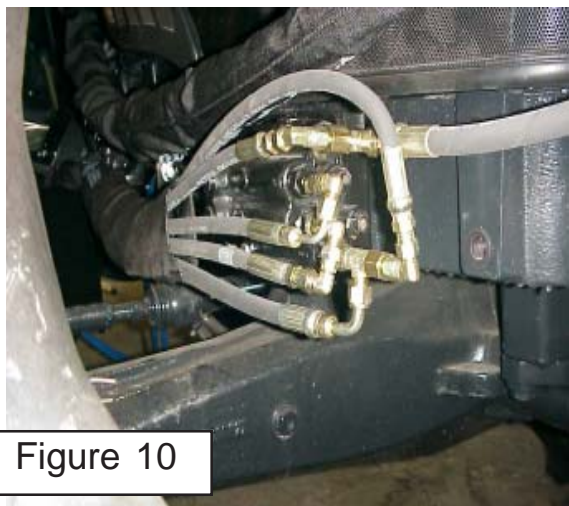
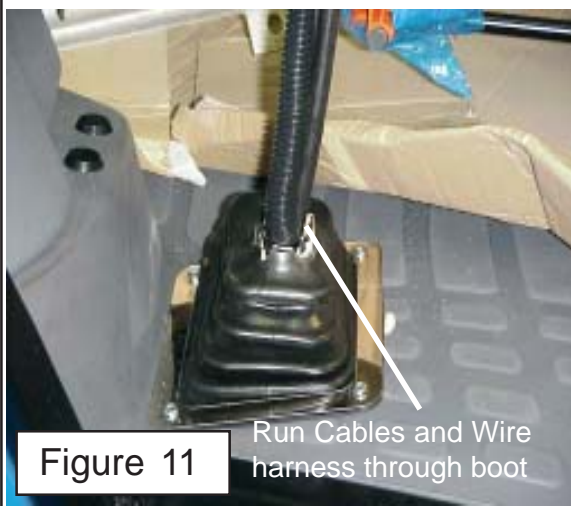

Figure 10
Figure 11
4. Install Control valve for Cab Model. The control valve for the cab model bolts onto the hyd tank mount weldment where it bolts to the frame rail (See Figure 10) Insert the cables down through the hole in the floor (See Figure 11) that will have screw down cover over it. Make certain to run the cables through this cover before connecting them at the ends as once the cables are connected they cannot be run through the boot.